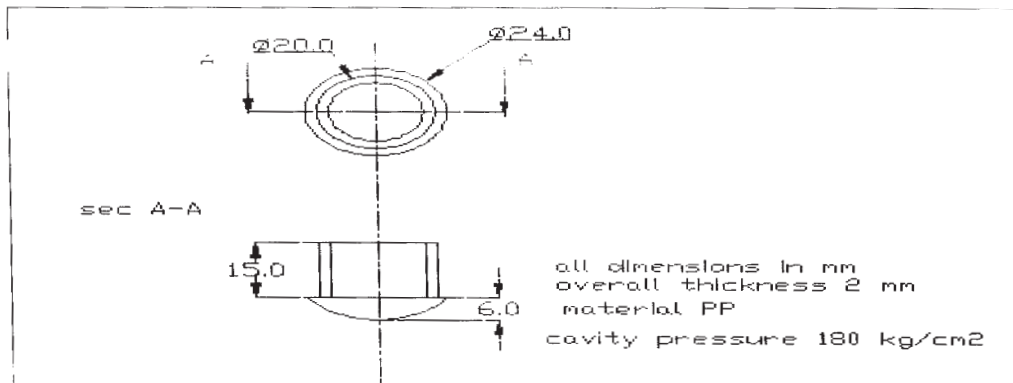

Figure 2
- Q2)** Design a 2-cavity 3-plate mold for the component shown in figure 2. Draw at least two views with one sectional view to bring out the details of the feed, cooling and ejection system. Illustrate the relevant design calculations. [35]